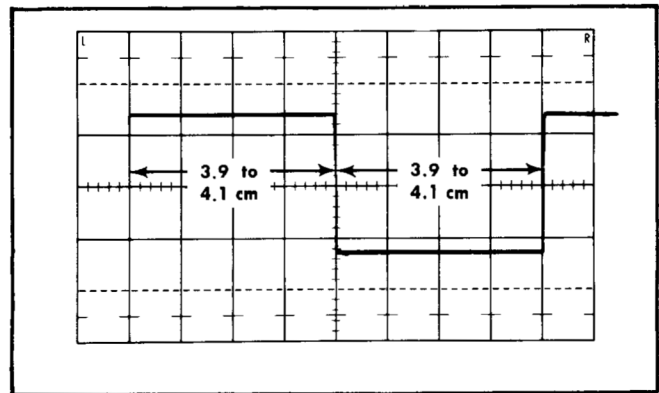

Fig. 5-2. Typical test oscilloscope display when checking Calibrator Duty Cycle.
- g. Check—Length of each segment of the square wave. 3.9 to 4.1 cm (see Fig. 5-2).
- g. Check—Length of each segment of the square wave, 3.9 to 4.1 cm (see Fig.5-2).
- g. Check—Length of each segment of the square wave — 3.9 cm to 4.1 cm (see Fig. 5-2).